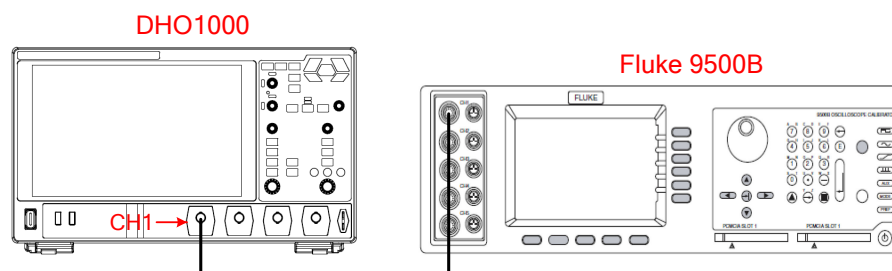

Figure 5.5 Bandwidth Test Connection Diagram
1. Connect the active head of Fluke 9500B to CH1 of the oscilloscope, as shown in *Figure 5.5*.